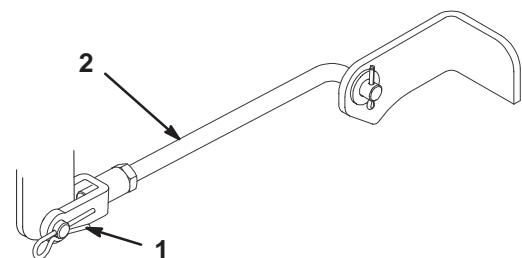

Figure 45
3. Remove the hairpin cotter and clevis pin from the front trunion yokes (Fig. 45).
6. Attach the front trunion rods to the tractor with the clevis pins and hairpin cotters (Fig. 45).